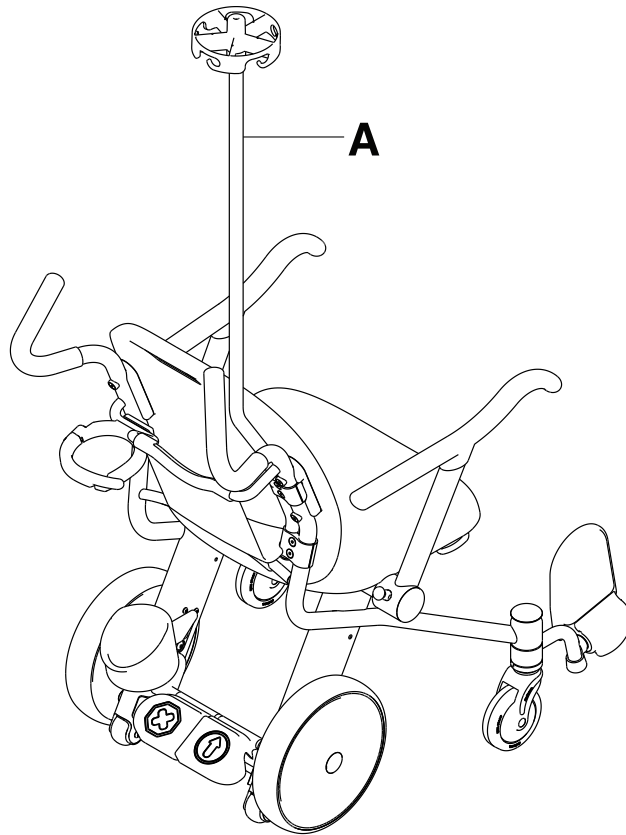

Figure 13 – IV pole
1. Pull on the optional IV pole (A) to make sure that it is secure (Figure 13).